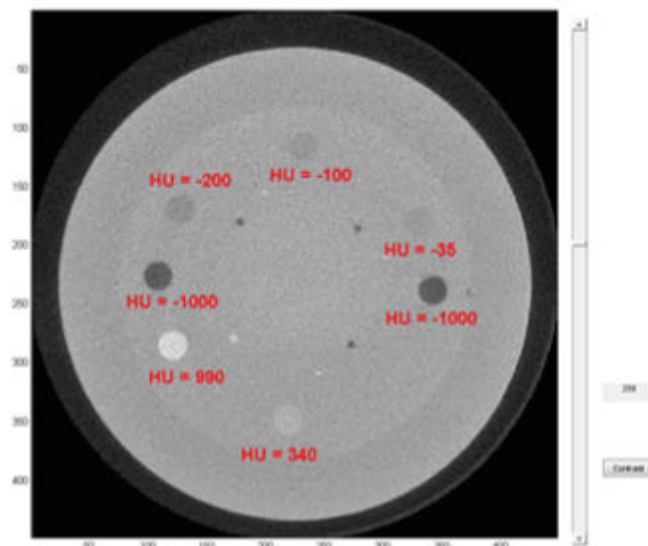

Figure 7.12 Reconstructed section in Catphan with inserts of different HU
The CNR may be measured in Catphan® 503 in objects of different Hounsfield Units (HU), see Figure 7.12 on page 251. CNR is determined by calculating: